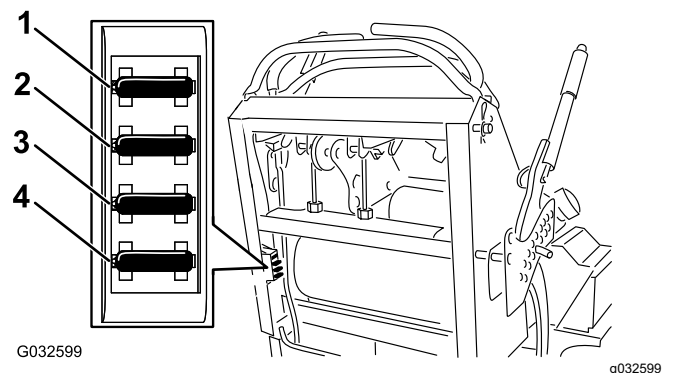

Figure 51
4. Pull out the fuse and replace it (Figure 51).